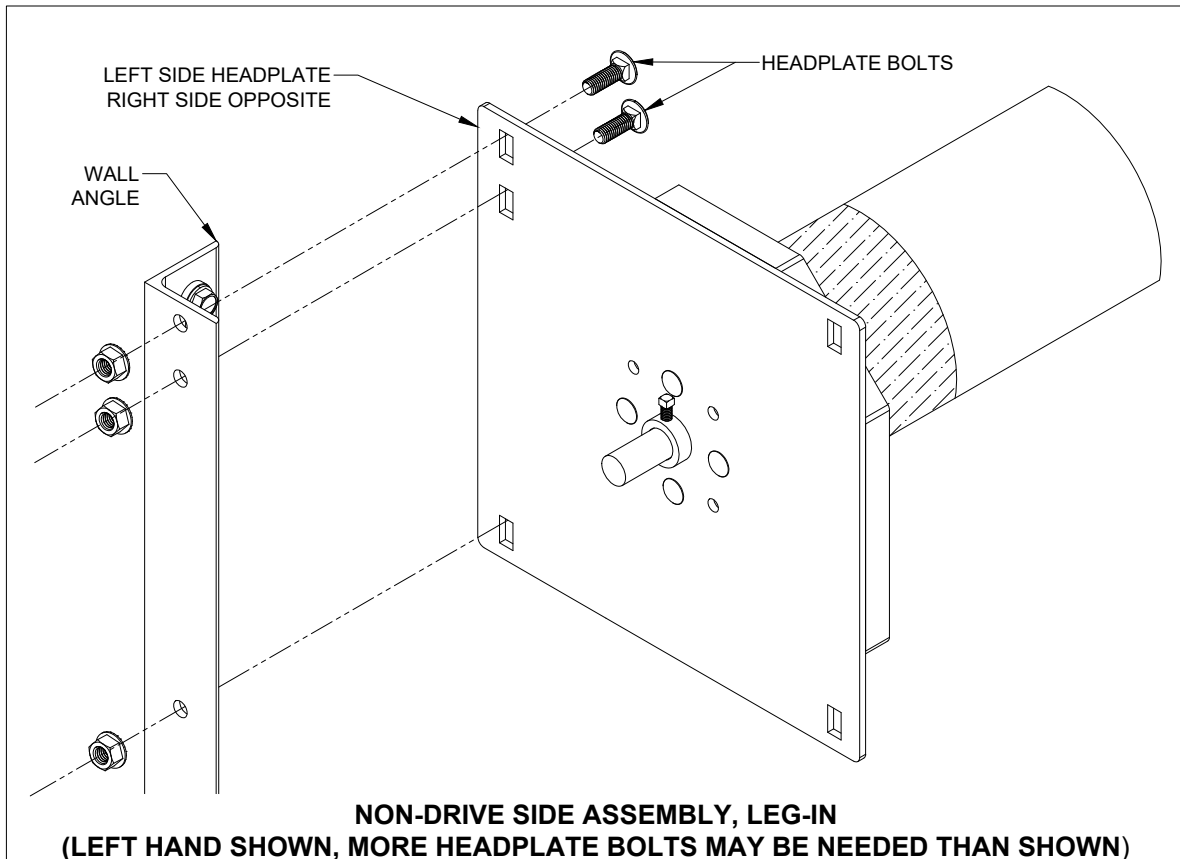

FIGURE 9
- b. Attach headplate brackets to the **INSIDE** of wall angles as shown in Figure 9.